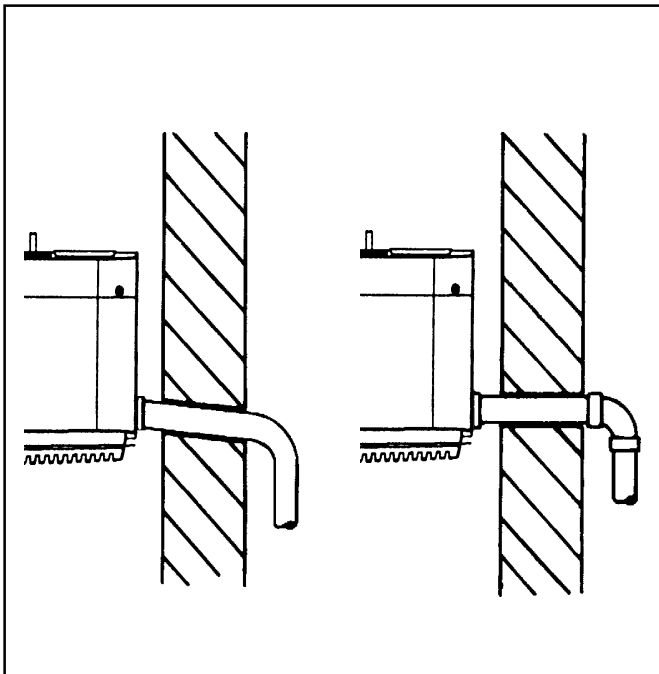

FIGURE 8
- Connect the 1/2" PVC piping to the drain connection (Figure 8).